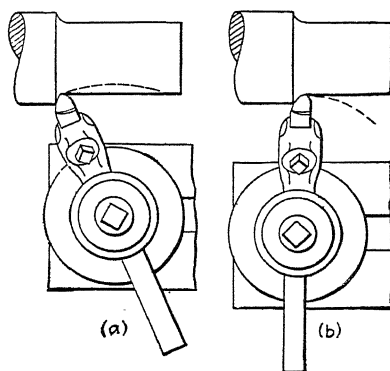

FIG. 90.
4. The usual practice with modern lathe turning tools (toolholders with high-speed tool bits) is to set the tool point toward the dog (see *a*, Fig. 90) thus obtaining approxi-
mately the proper side rake with less grinding on the top of the tool bit. This is all right for light cuts if care is taken to tighten securely the tool in the tool post. For heavy cuts, however, it is best, if possible, to have the tool point a little away from the dog for if it slips it will move away from the work and not into it (see *b*, Fig. 90).